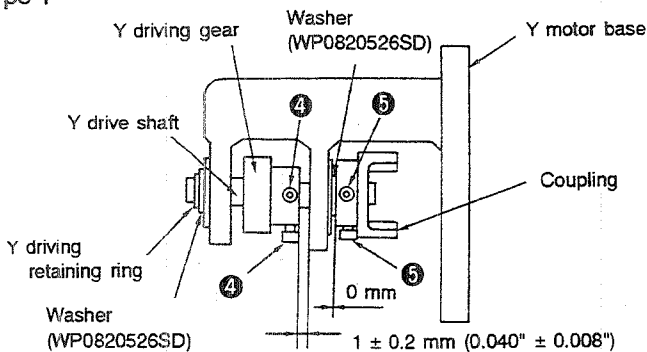

Fig. 5-54-3
- When fixing the Y motor base, refer to the "STANDARD ADJUSTMENTS (32)."
- If the coupling of the Y-axis feed stepping motor has been removed, apply LOCK-TITE No. 242 to setscrews ③, and fix the coupling so that a 3.9 ± 0.1 mm ($0.154'' \pm 0.004''$) clearance is obtained between the coupling and the installation face of the Y-axis feed stepping motor.
- If the coupling and the Y driving gear have been removed, apply LOCK-TITE No. 242 to setscrews ④ and ⑤. Then fix the Y driving gear and the coupling so that a 1 ± 0.2 mm ($0.039'' \pm 0.008''$) clearance is obtained between the Y motor base and the Y driving gear, and so that a 0 mm clearance is obtained between the Y driving shaft retaining ring and the coupling.
- Type 1 (Fig. 5-54-3)